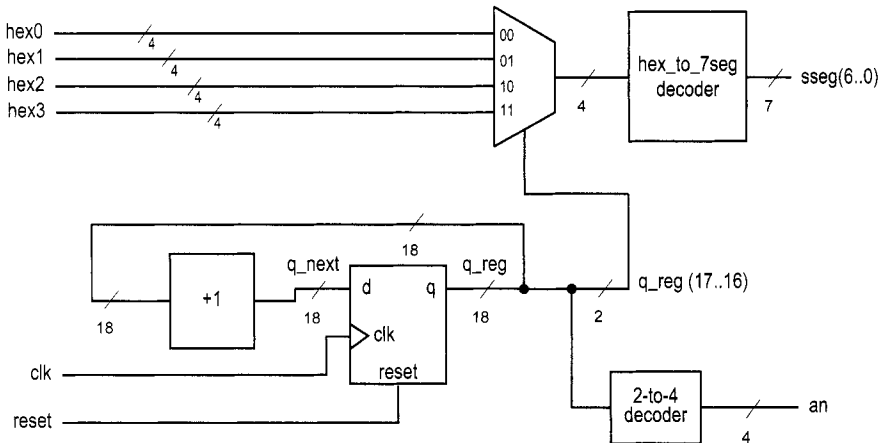

Figure 4.9 Block diagram of a hexadecimal time-multiplexing circuit.
**Time multiplexing with hexadecimal digits** The most common application of a seven-segment LED is to display a hexadecimal digit. The decoding circuit is discussed in Section 3.7.1. To display four hexadecimal digits with the previous time-multiplexing circuit, four decoding circuits are needed. A better alternative is first to multiplex the hexadecimal digits and then decode the result, as shown in Figure 4.9.